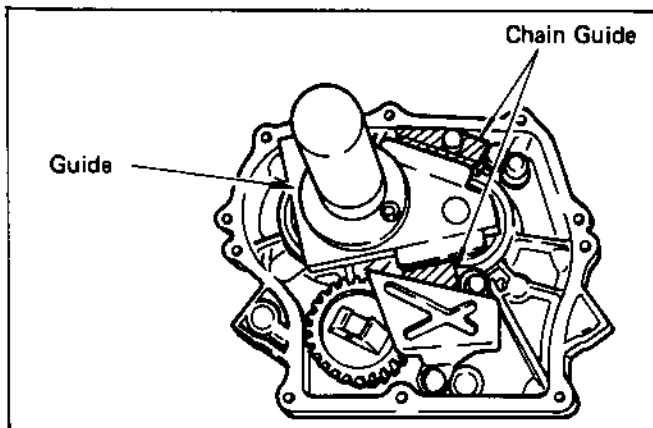
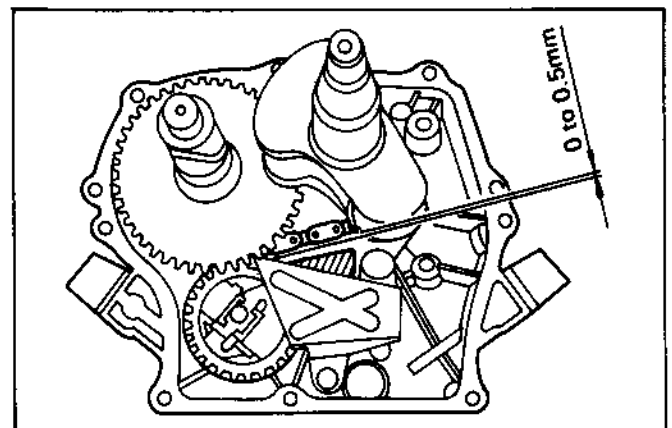

Fig. 33 (EY15B)
Fig. 34 (EY15B)
**NOTE:** When the chain guide is replaced in the EY15B, use the guide (chain guide) (See Fig. 33.), or set the chain so that the clearance between the chain and the chain guides is from 0 to 0.5mm. (See Fig. 34.)